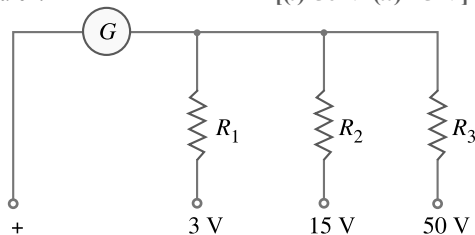

Fig. 20.35
2. The three range voltmeter is arranged as shown in Fig. 20.35. The ranges are  $0$  to  $3\text{ V}$ ,  $0$  to  $15\text{ V}$  and  $0$  to  $50\text{ V}$  as marked. If the full-scale deflection current is  $10\text{ mA}$ , what should be the values of  $R_1$ ,  $R_2$  and  $R_3$  ? The resistance of the meter is  $5\ \Omega$ .